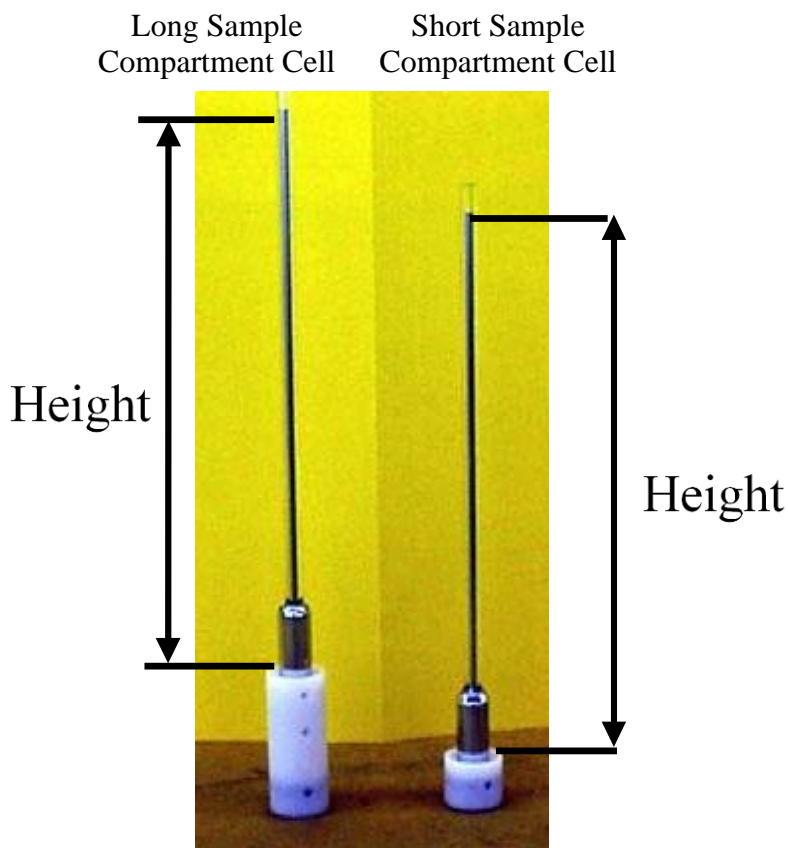

Figure 23. Mercury height above Delrin housing for head pressure calculation
- For precise head pressure calculation, one can measure the mercury height above the Delrin housing as shown in Figure 23.